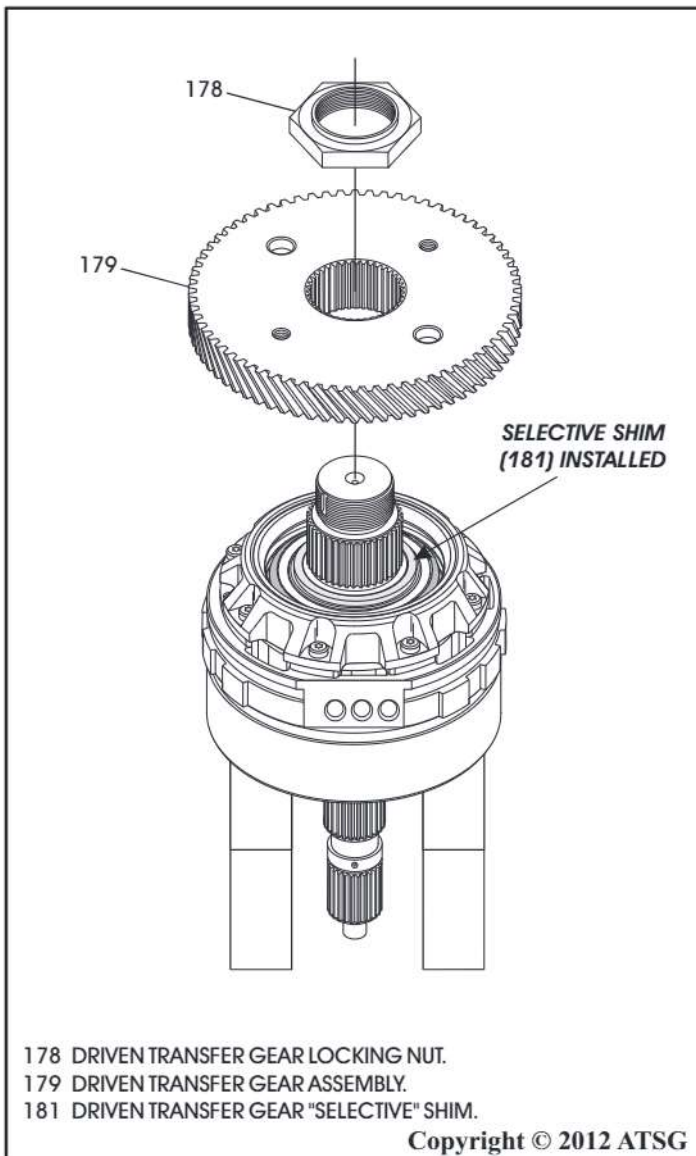

Figure 158
9. Install the completed driven transfer gear assembly onto the underdrive center shaft on top of the selective shim, as shown in Figure 158.
10. Install the driven transfer gear locking nut onto the underdrive center shaft, as shown in Figure 158.